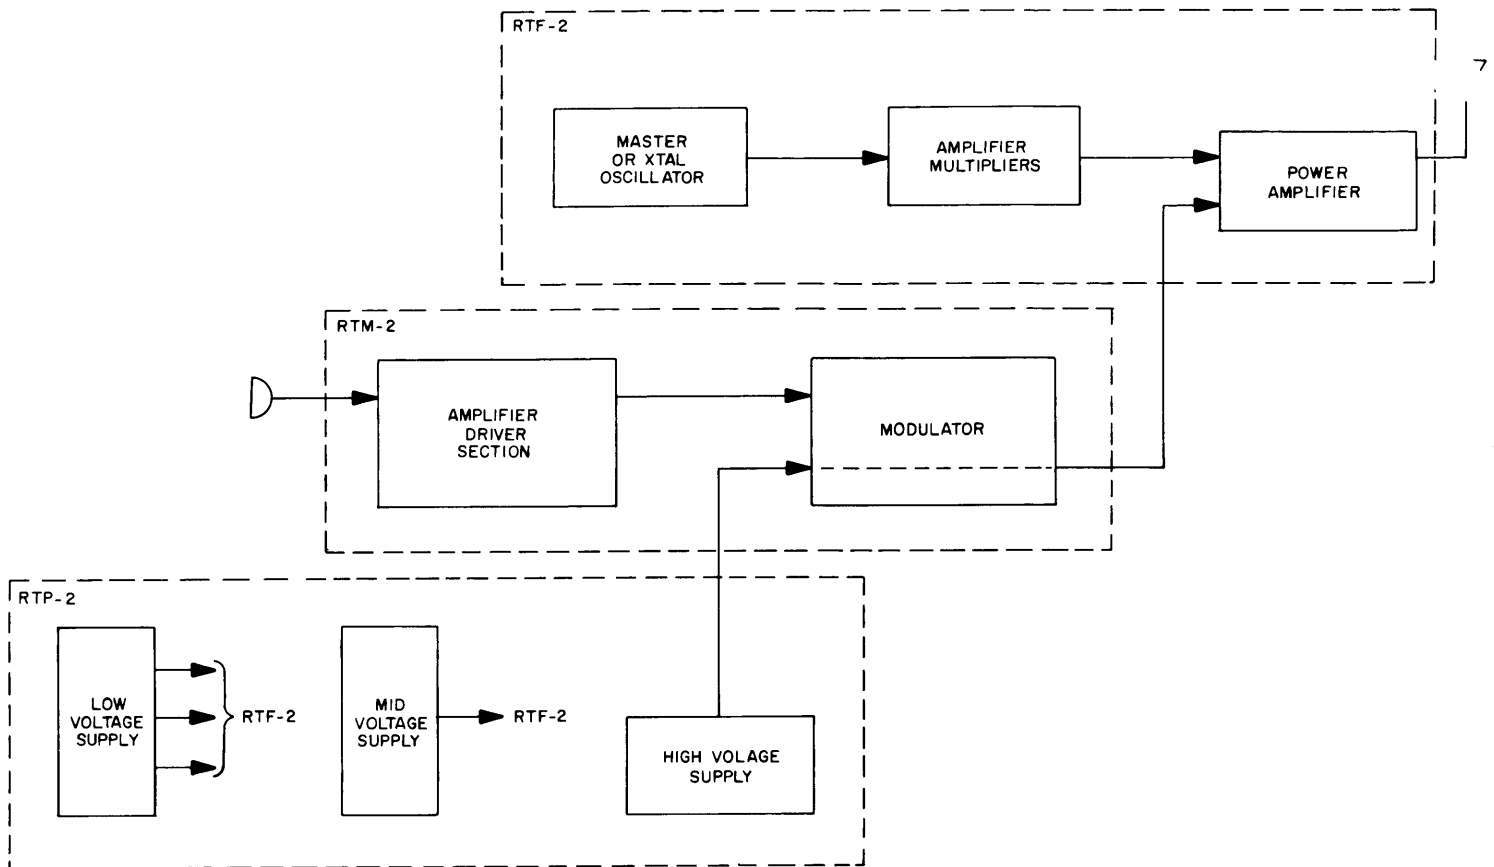

Figure 1-2. Radio Transmitter, Simplified Block Diagram
a. Figure 1-2 is a simplified block diagram of the transmitting system. The RTF-2 consists basically of a master oscillator, amplifier-multipliers, and power amplifier. The modulator comprises an amplifier driver section and a modulator. The power supply contains the high-voltage, midvoltage, and low-voltage supplies.